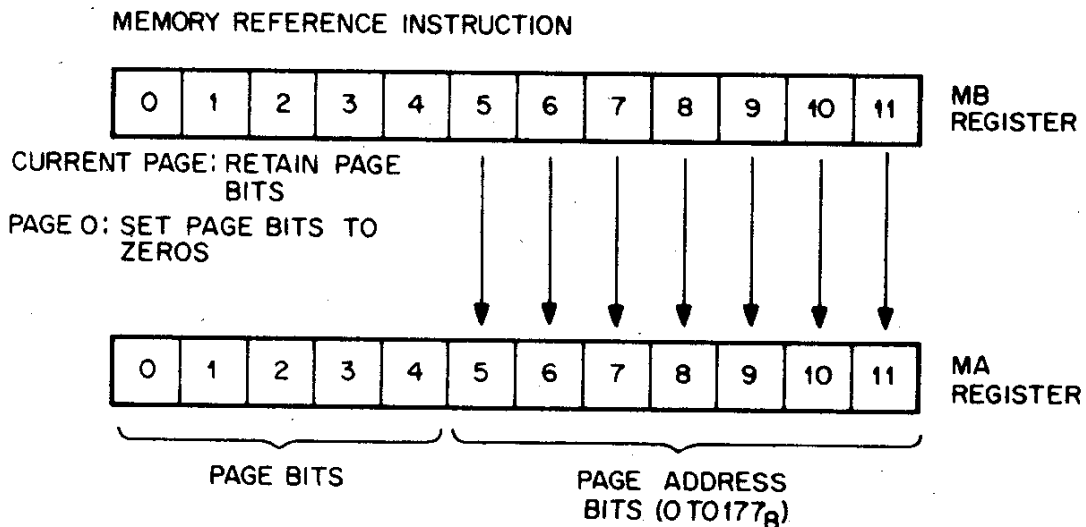

Figure 4-4 Transfer of Address Portion of MRI into MA Register
The first three bits contain the instruction operation code and have nothing to do with addressing. The last seven bits address the location (from 0 to 177 octal), which will contain either data or a 12-bit address. Those address bits are located in the Memory Buffer Register, and are ineffective until bits 3 and 4 are decoded, at which time the address bits are transferred from the Memory Buffer to the Central Processor Memory Address Register. The page address (the first five bits of the MA register) is determined by whether bit 4 is a 0 or 1 (see Figure 4-4).
**Current Page**—If the programmer desires the data to be located in the current page, he must make bit 4 a 1 in the original instruction word. The logic within the processor causes the first five bits of the MA to remain, and transfers the last seven bits of the MB (the new address within a page) to the last seven bits of the MA Register. This method of updating the MA Register is illustrated in Figure 4-4.
**Page 0**—Page 0 is commonly used to store operands or address of operands or routines. The programmer must set bit 4 word to 0. The logic within the processor then places all zeros in MA bits 0 through 4 and transfers the content of the last 7 bits of the MB register to the last 7 bits of the MA Register. Thus, the page address is now page 0 and the address within page 0 is some address between 0 and 177 octal. This is illustrated in Figure 4-4.